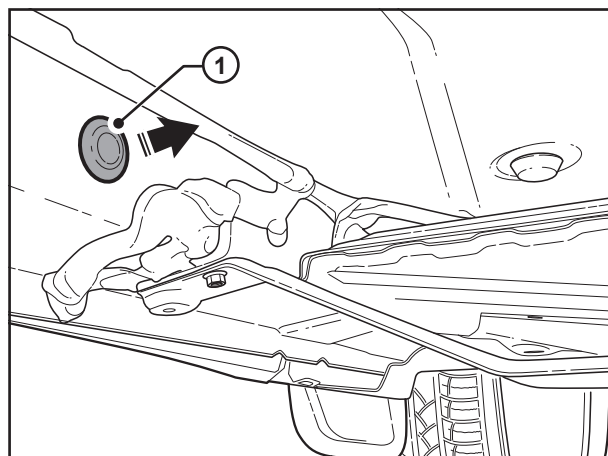

FIGURE 6
- Identify the 18mm diameter hole on the rocker panel, remove and discard the rubber grommet **(1)** as shown in Figure 6.